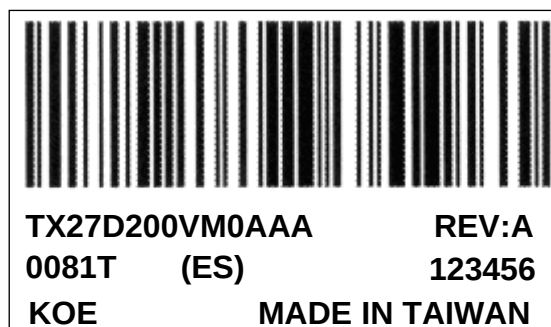

Fig. 10.2
- 3) The location of the lot mark is on the back of the display shown in Fig. 10.2